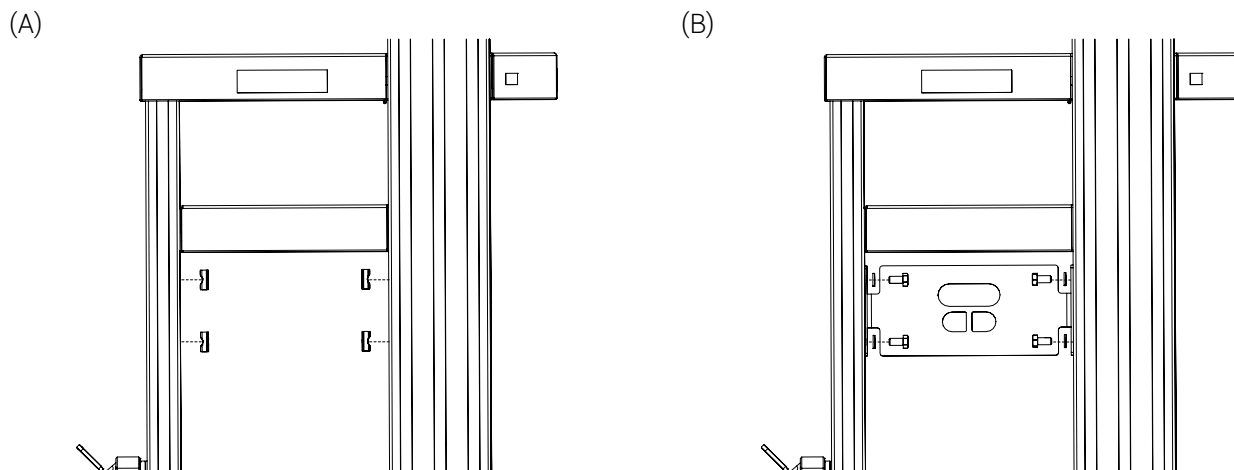

Figure 32: Installation UPS on-off switch protective panel
1. Ensure to have applied all four (4) brakes on the transport cart.
2. Insert four (4) sliding T nuts in each vertical rail, under the top shelf (Figure 32 A).
3. Align the screw holes of the protective panel and the sliding T nuts, then only partially tighten the four (4) hex head screws and four (4) lock washers, using a key 1/2 in. (Figure 32 B).